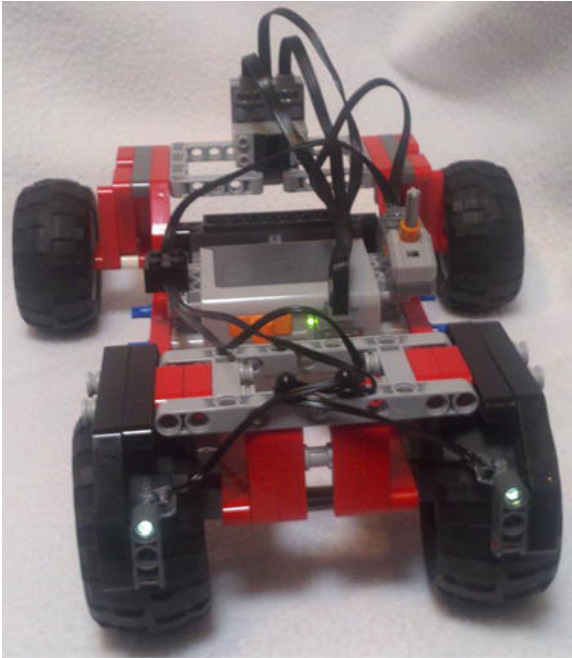

Figure 4-8. The pieces that you will need for setting up the lights in Figure 4-7.
6. Finally, the 3M Cross Blocks are held onto the Double Angle Beams with 2M Axles, and they form the frames to insert the LEDs. You can see what pieces you will need and where to put them in Figure 4-8.